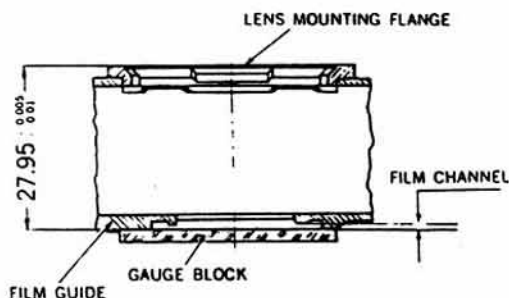

Figure 4-21. Film Plane Measuring Points.
(Fig. 4-21)
- (1) Place the camera housing on the gauge block of gauge set 42-253.01-Z1A76 and rest the outer film guides on the mirror surface (fig. 4-21).
- (2) Measure the distance from the lens flange to the gauge block with the dial gauge. The gauge indicator should read "zero". A tolerance of $+0.005\text{mm}$ or -0.01mm is permissible.